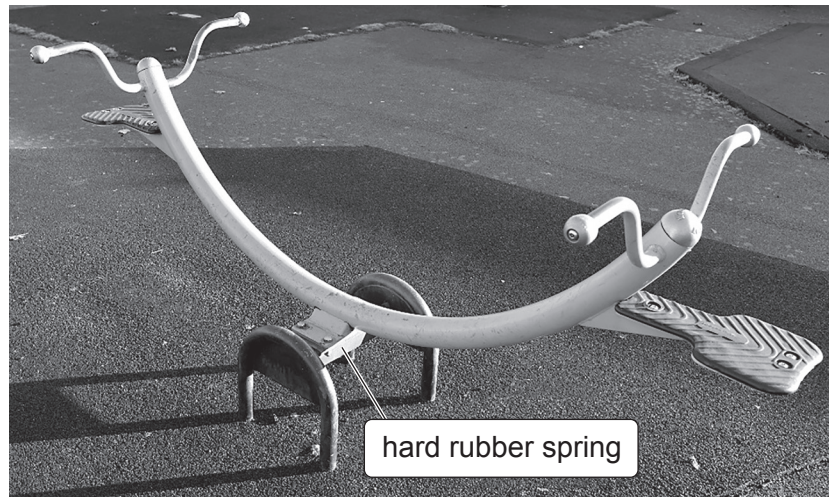

Fig. 10.4
- (d) Fig. 10.4 shows a playground see-saw mounted on a hard rubber spring.